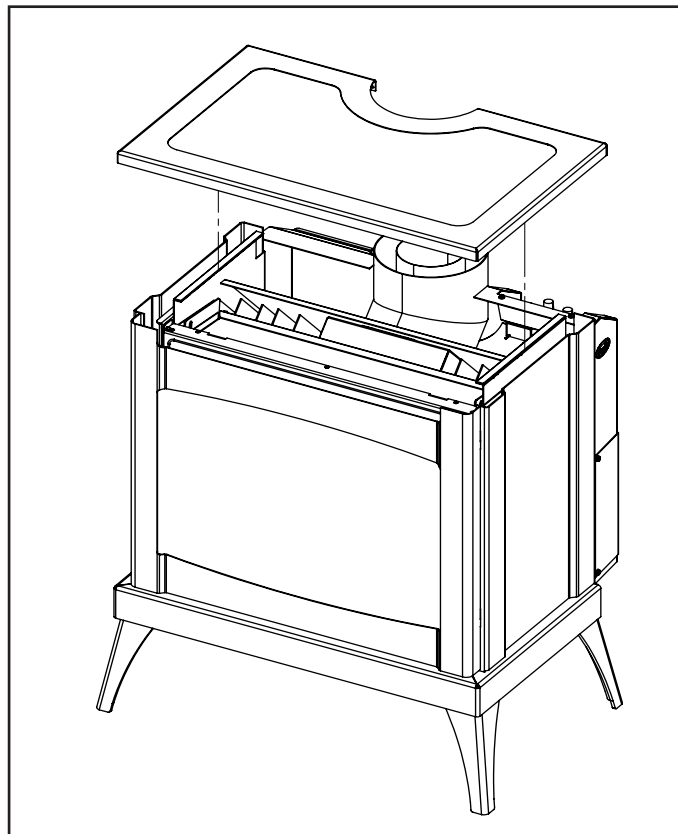

Figure 39: Removal of Stove Top
1. Carefully remove the stovetop and place on a soft surface as not to damage the painted finish (see Figure 39).